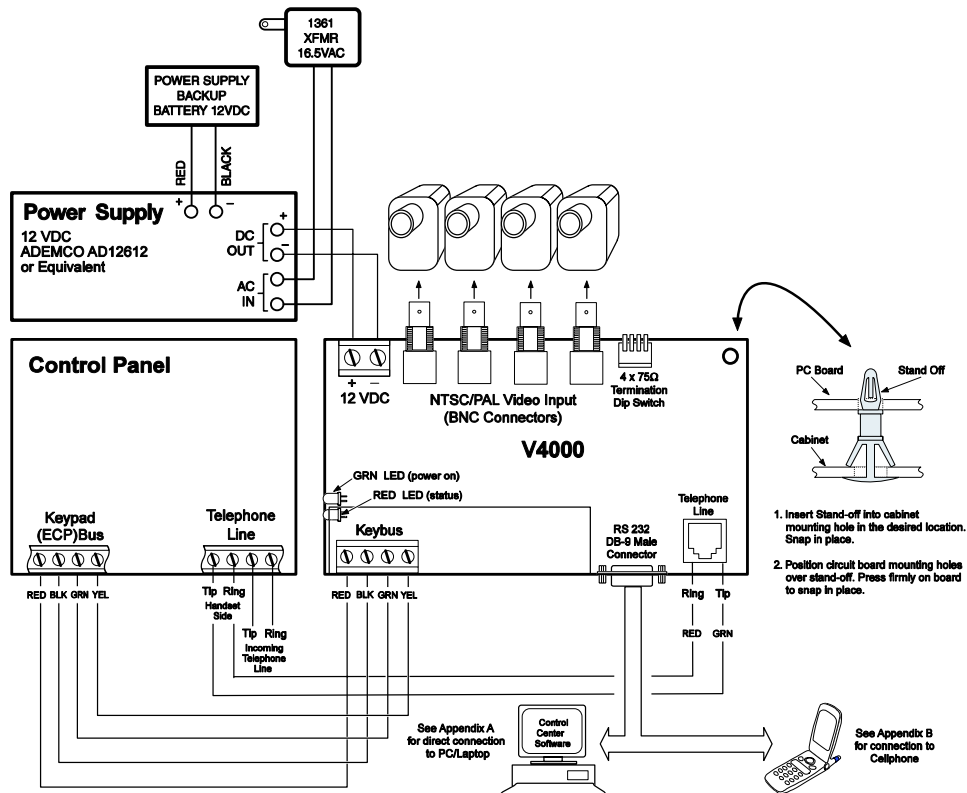

Figure 2: System Wiring
Once all components are mounted, wire the unit as follows, referring to Figure 2.
1. Connect Handset side Tip and Ring on the Control panel to the V4000 Tip and Ring terminals as shown in Figure 2.